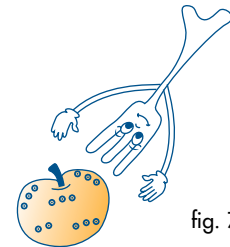

fig. 7
- 4) **Food which has a skin, shell or peel (e.g., apples, potatoes, tomatoes, frankfurters, fish) must be pierced with a fork in several points to let steam escape and to prevent those items from exploding (see Fig. 7).**